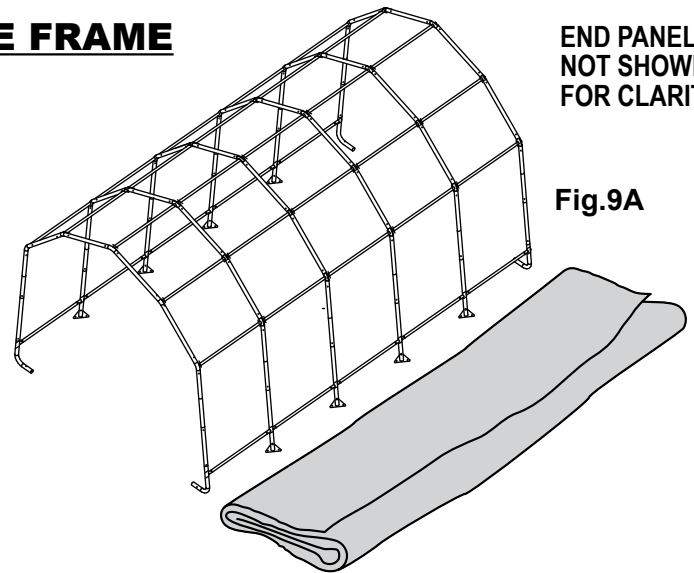

Fig.9A
A. Lay the cover on the ground next to the frame with the inside of the cover (the side with the pipe pockets) facing down and the webbing on the front and rear of the corner of the building. Position the cover so that it is centered to the frame, front to back. Fig. 9A